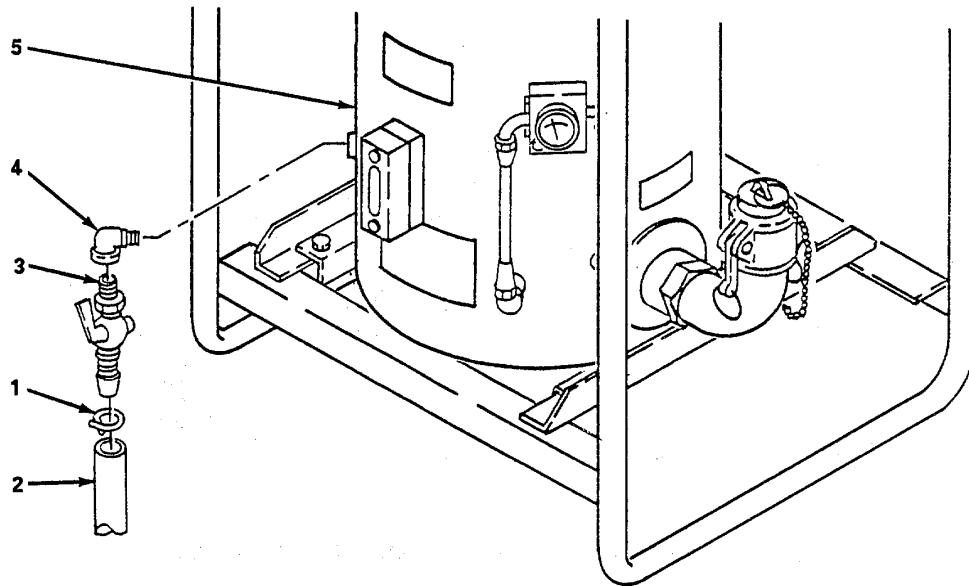

Figure 4-13. *Drain Cock, Replace.*
- (4) *Water drain cock.* (figure 4-13)
- (a) Loosen clamp (1) and remove drain hose (2).
- (b) Remove water drain cock (3) from elbow (4).
- (c) Remove elbow (4) from tank (5).
- (d) Inspect elbow (4) and replace if threads are stripped or elbow is otherwise damaged.
- (f) Install elbow (4) on tank (5).
- (g) Install water drain cock (3) into elbow (4).
- (h) Install drain hose (2) and secure with clamp (1).